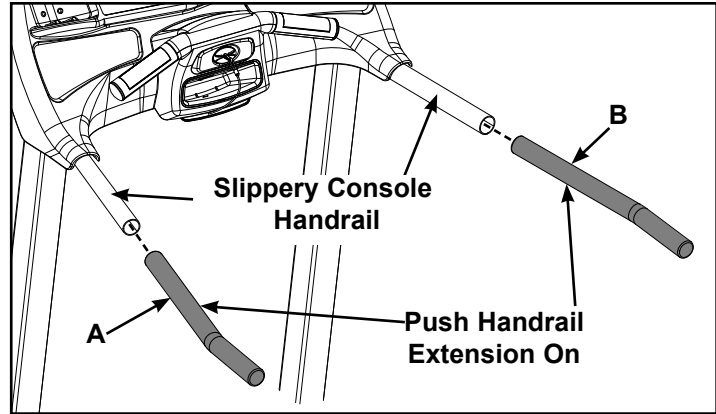

Figure 16
- B. Dampen a clean cloth in a mild soapy water solution and spread it on each console handrail. Feel the handrail to be sure it is slippery. See Figure 16.
C. While the console handrail is still wet and slippery, push each handrail extension on the console handrail. See Figure 16. **NOTE:** Push until you hear metal touching metal inside the grips and the grip holes line up with the holes in the handrail.